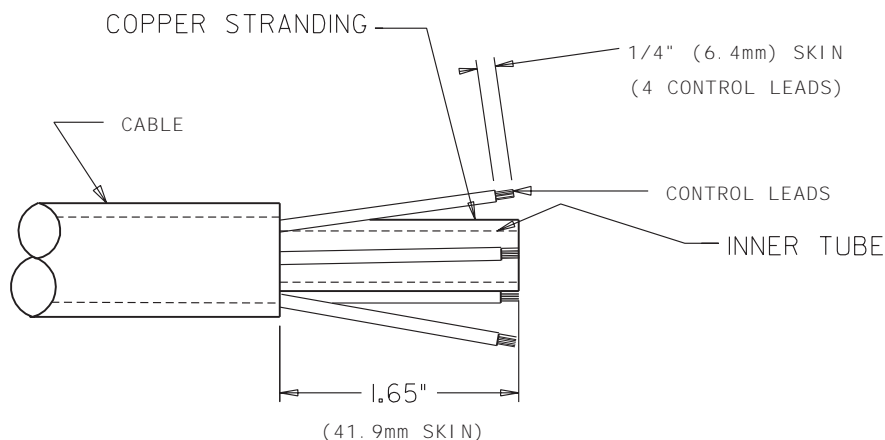

Figure E.2
Cut off damaged section of cable and strip off the outer jacket 1.65" (41.9mm) back. Be careful not to cut the insulation on the control wires while stripping jacket. Strip all four control leads 1/4" (6.4mm) back and crimp a new S19492-2 terminal to both the black lead and the white lead. Remove the leads connected to the red and blue control leads from the cutoff cable and solder these leads to the blue and red leads of the newly trimmed cable. Insulate connections with heat shrink tubing or tape. (See Figure E.2).
- e) Cut off the damaged section of cable and strip off the outer jacket as shown in Figure E.2. Be careful not to cut the insulation of the control wires while stripping jacket. Strip all four control leads .25 (6.4 mm) inch back.